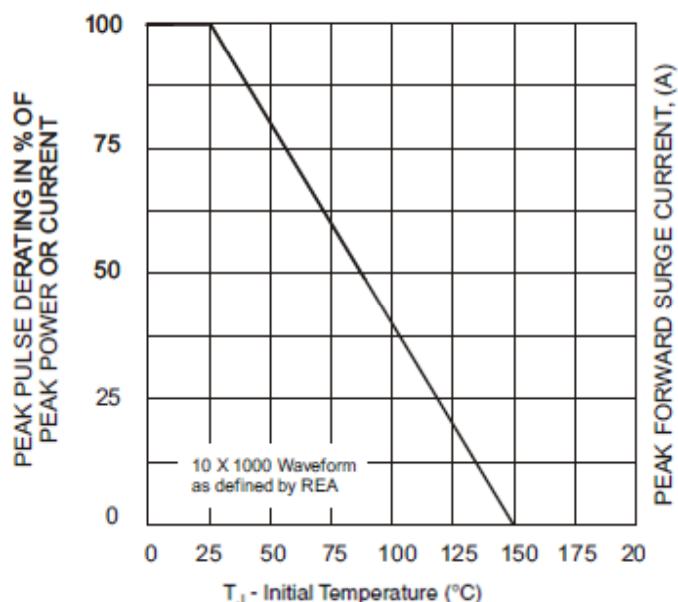
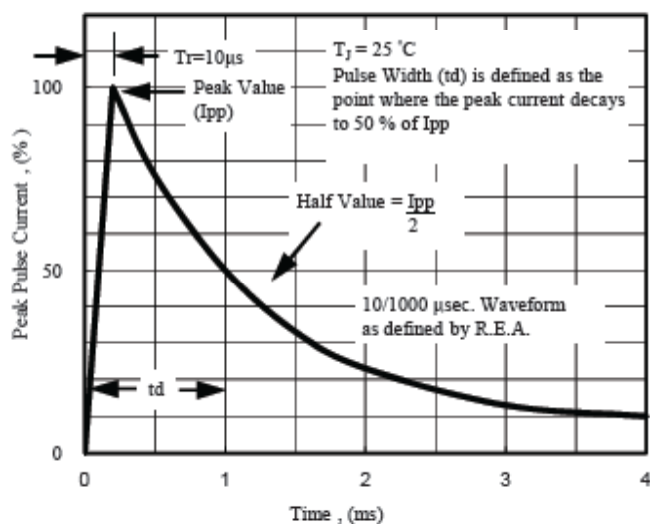

Fig. 1 - Pulse Derating Curve
Fig. 5 - Pulse Waveform
1)Non-repetitive current pulse per Fig.5 and derated above $T_A = 25^\circ\text{C}$ per Fig.1 ;